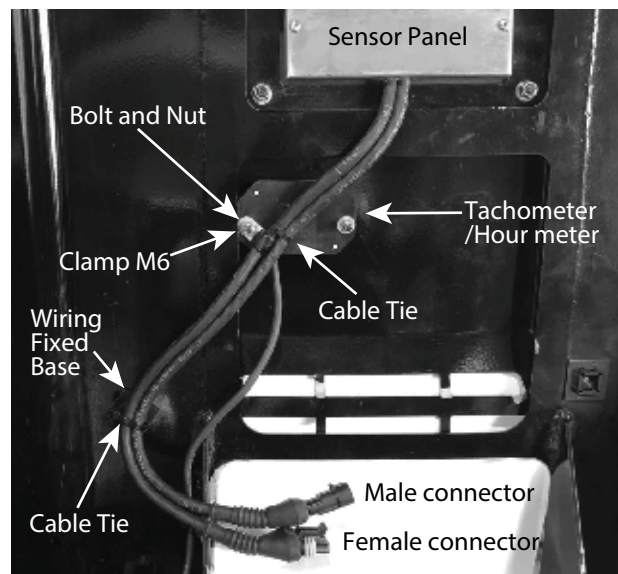

Figure 34. Secure Cables from Sensor
- Place the clamp M6 (P/N 954409880) to the cable of female connector from the sensor panel and secure it with bolt and nut securing the tachometer/hour meter. Then, secure the other cable to this one with cable tie. See Figure 34.
- Secure the cables from the sensor panel to the wiring fixed base with the cable ties. See Figure 34.